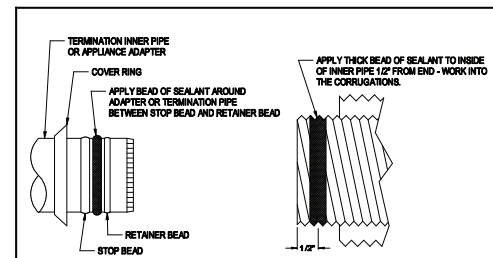

Figure 8
5. Remove all oil and grease from end of termination inner pipe or appliance adapter, and apply a bead of sealant to between the stop bead and retainer bead (Figure 8).
6. Apply a thick bead of sealant to inside of inner vent pipe ?" from the end of pipe, working the sealant into the corrugations (Figure 8).